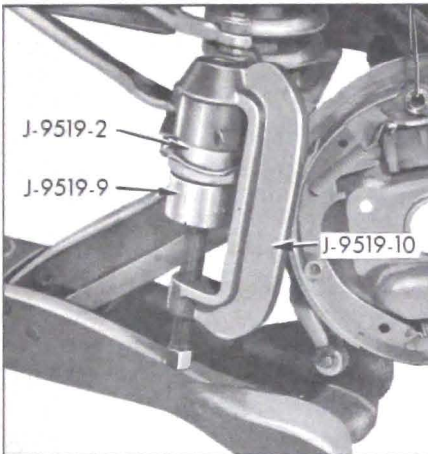

Figure 7-15—Lower Ball Joint
1. Position ball joint minus dust shield in lower control arm and install Tool J-9519 as shown in Figure 7-15. Note that the larger O.D. portion of Tool Detail J-9519-2 is positioned in Detail J-9519-10.